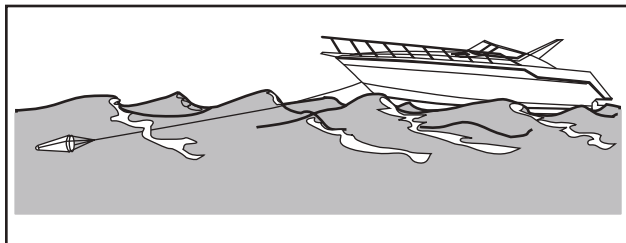

FIGURE 10.4 SEA ANCHOR
- If you lose power, keep the boat headed into the waves by rigging a sea anchor off the bow (**Figure 10.4**). If there is no sea anchor on board, use a canvas bucket or any object that will offer resistance.